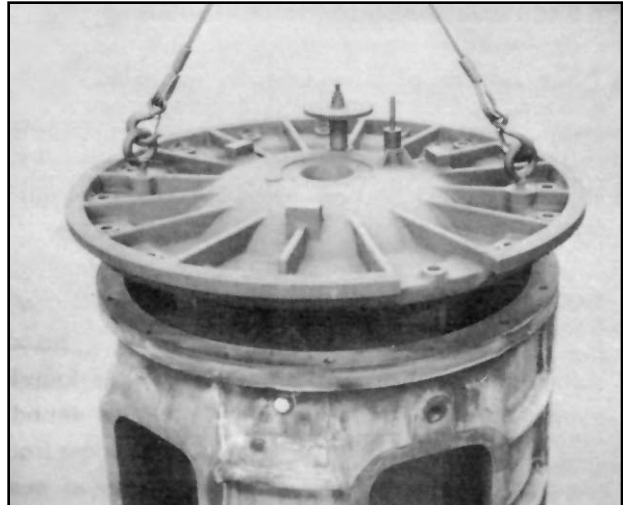

Figure 16
- Remove cover as shown in Figure 16 and place on two 2" x 4" wood blocks on the floor. This will protect the jackshaft gear from being damaged.